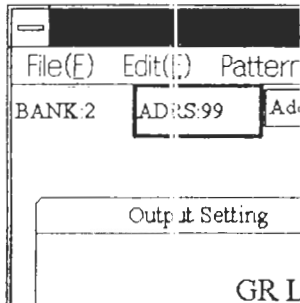
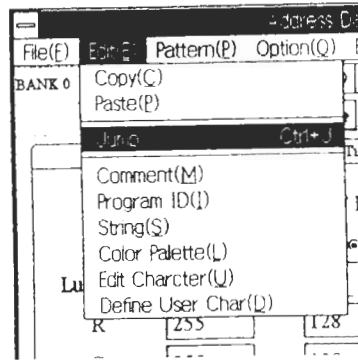

Figure 4-2
Figure 4-3
- (1) Double-click the "ADRS" (see Figure 4-2), or select the Jump (J) from the Edit (E) menu (see Figure 4-3).